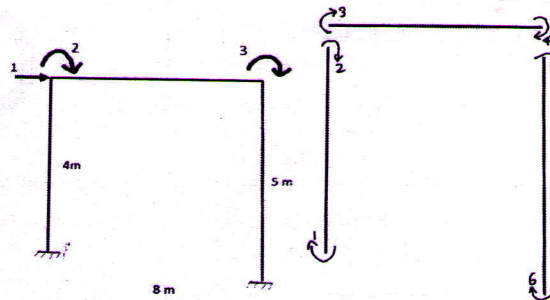

Figure 9
- 6 a) What is lack of fit? Explain how member forces due to lack of fit is estimated in stiffness method. (6)
- b) Explain the importance of transformation matrices in matrix analysis of structures. Establish relationship between force and displacement transformation matrix (5)
- c) Generate displacement transformation matrix for the portal frame shown in Figure 9 for the system coordinates and element coordinates given below. (4)